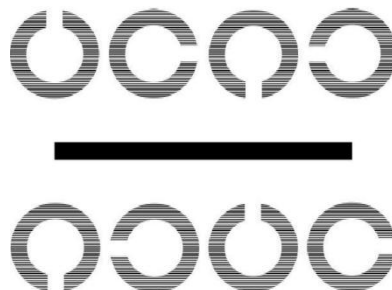

Figure 6.5 Binocular balance test chart
1. Project binocular picture, as shown in figure 6.5